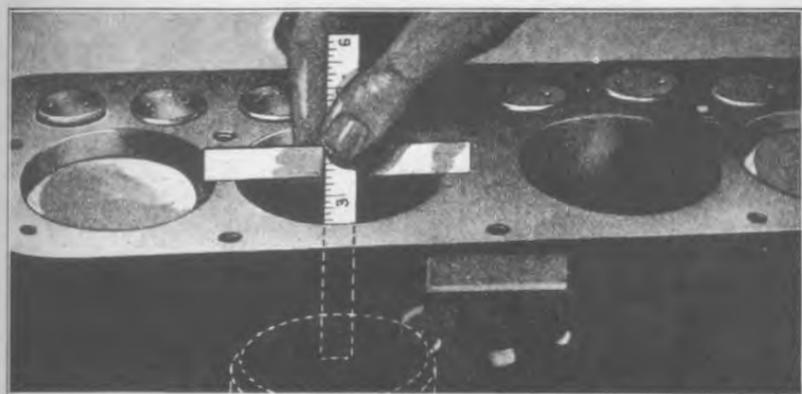

Fig. 173
- 261 Valves should next be checked for opening and closing with respect of piston travel. The opening and closing of valves with respect to position of pistons is as follows: Exhaust valve opens when the piston reaches  $\frac{5}{16}$ " before bottom center; this can be determined by measuring the distance from the top of the piston head to the top of the cylinder block; the distance between these points being  $3\frac{3}{8}$ " (See Fig. 173). The exhaust valve closes at top center, the piston being  $\frac{5}{16}$ " above face of cylinder block. The intake valve opens  $\frac{1}{16}$ " past top center or when piston is  $\frac{1}{4}$ " above top of cylinder block. The intake valve closes  $\frac{9}{16}$ " past bottom center, the distance from the top of the piston to the face of the cylinder block being  $3\frac{1}{8}$ ".